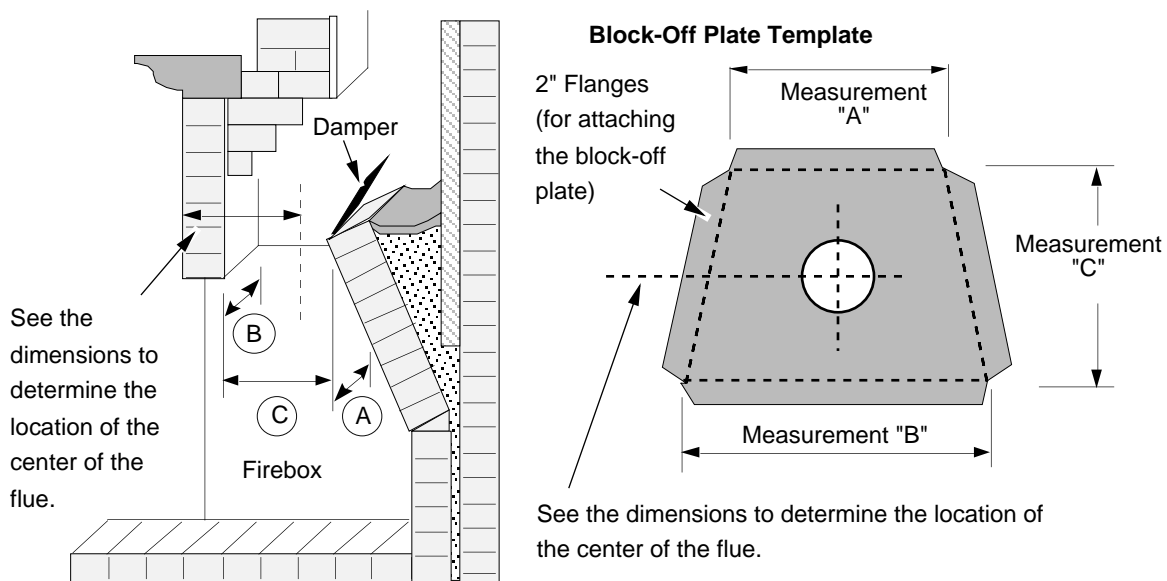

Figure 15
- Determine a location for the block-off plate at the top of the firebox below the damper area (make it high enough to allow installation of the connection pipe). The location should be level and in an area where it can be mounted easily. Measure the width at the rear ("A") and front ("B") of the firebox at the height where the block-off plate will be installed (see Figure 15). Then measure the depth of the location where the block-off plate will be installed ("C").